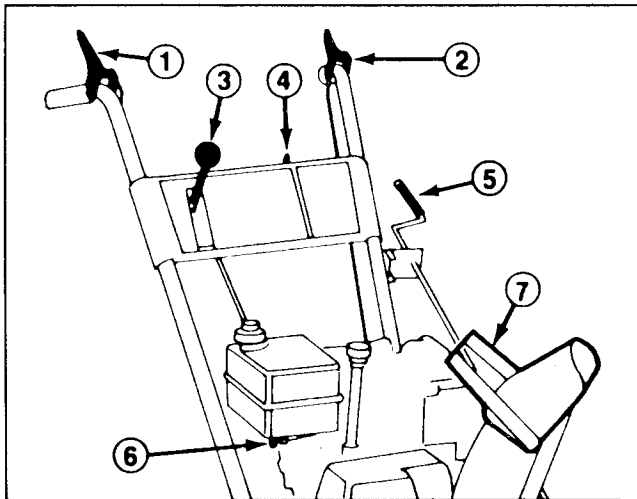
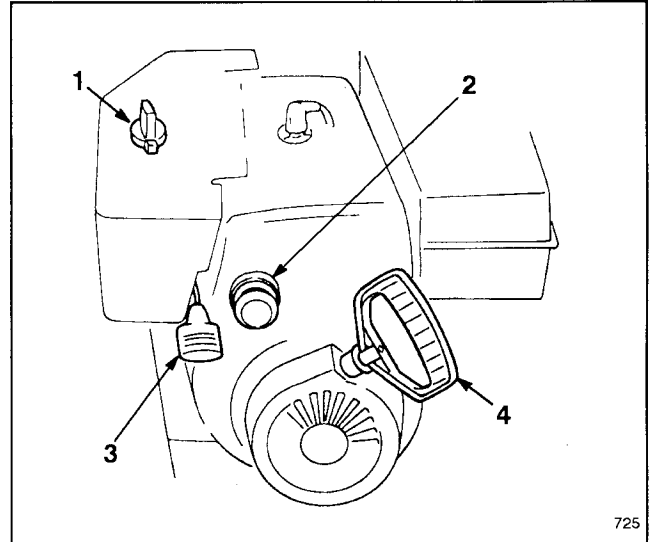
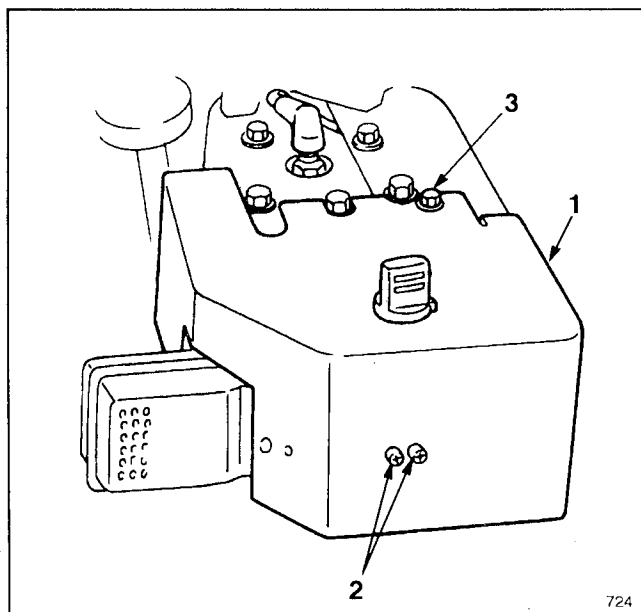

Figure 14
Figure 15
Figure 16
**Auger Drive Control** (Fig. 14)—Control has two positions: ENGAGE and DISENGAGE. To engage both auger and impeller, compress lever against right handgrip. To disengage, release lever.
**Traction Control** (Fig. 14)—To engage traction (wheel drive), lever must be compressed against left handgrip. To stop traction, release lever.
**Speed Selector** (Fig. 14)—The control has four positions: reverse, 1, 2 and 3. To change speeds, move gear shift to position desired. Lever will lock in notch at each speed selection. Use positions 1, 2 or 3 depending on snow conditions.
**Ignition Switch** (Fig. 14)—Switch has two positions: ON and OFF. Rotate key to ON position before starting engine with the recoil starter. To stop engine, rotate key to OFF.
**Throttle** (Fig. 15)—Moving the throttle upward increases engine speed.
**Choke** (Fig. 15)—Rotate choke to FULL choke position to start a cold engine. As engine warms up, move choke gradually to OFF.
**Primer** (Fig. 15)—Press primer to pump a small amount of gasoline into engine for improved cold weather starting.
**Fuel Shut-Off Valve** (Fig. 14)—Valve is located under fuel tank. Close valve by rotating it to the right to stop fuel flow from fuel tank. Open valve by rotating it to the left to allow fuel to flow to the carburetor. Close valve when snowthrower is not in use.
**Discharge Chute Control** (Fig. 14)—Rotate discharge chute control clockwise to move discharge chute to the left and counterclockwise to move chute to the right.
**Recoil Starter** (Fig. 15)—Recoil starter is on back side of engine. Pull recoil starter to start engine.
**Chute Deflector Handle** (Fig. 14)—Deflector handle is on top of discharge chute, and it is used to control height of the snow stream.
**Note:** If engine is operated when temperature is +40° F (4° C) or higher, remove carburetor heater box (Fig. 16). However, the heater box must be reinstalled when temperature falls below +40° F (4° C). To remove heater box:
- A. Remove (2) phillips screws and (1) hex head screw securing heater box in place (Fig. 16). Pull choke knob off choke rod (Fig. 15).
1. Move throttle (Fig. 15) to FAST.
2. Open fuel shut-off valve below fuel tank (Fig. 14) by rotating valve to the left.
3. Rotate choke (Fig. 15) to full choke position.
4. Rotate ignition key (Fig. 14) to ON.
6. Grasp recoil starter handle (Fig. 15) and pull it out slowly until positive engagement results; then pull vigorously to start the engine. Keep firm grip on starter handle and return the rope slowly.
7. After engine starts, immediately rotate choke (Fig. 15) to 3/4 position. As engine warms up, rotate choke to 1/2 position; then to OFF position. If engine falters, return choke to 1/2 position. When engine warms sufficiently, rotate choke to OFF position.
1. Release traction and auger drive controls (Fig. 14).
2. Move throttle (Fig. 15) to slow and rotate ignition key (Fig. 14) to OFF.